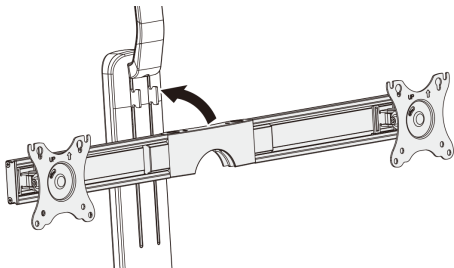

Figure 8
- Hook the **Crossbar Mount, Upper** onto its receptacle on the **Monitor Lift Column**. As shown in Figure 8.